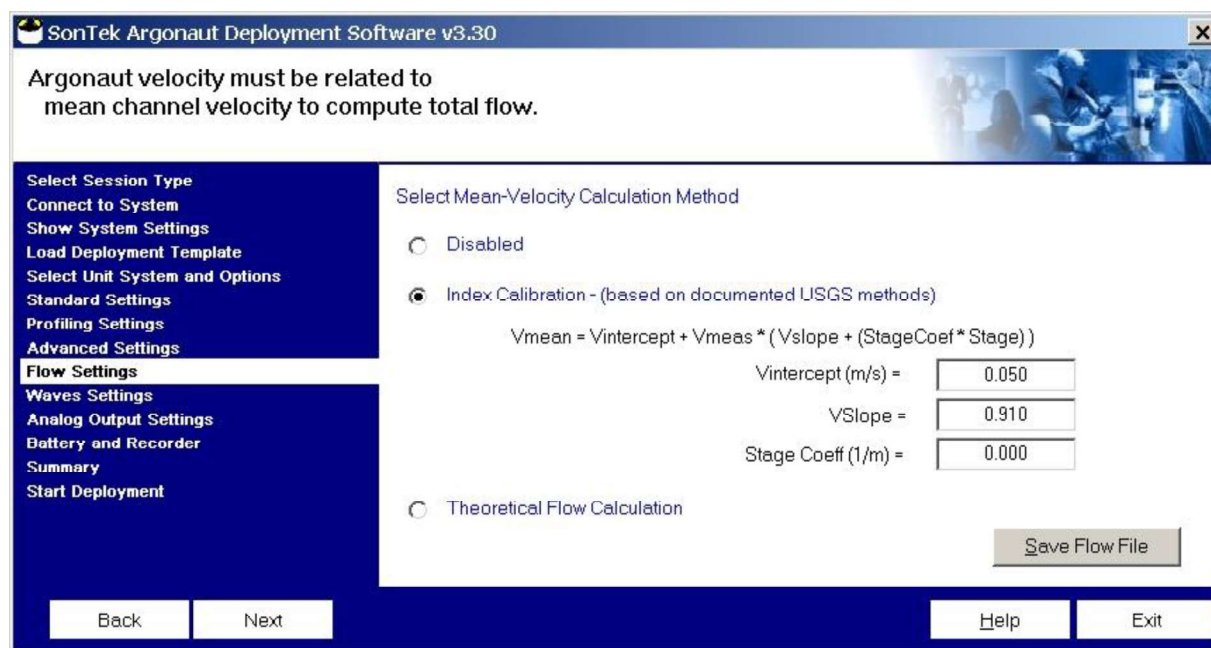

Figure 5-43. Deployment Software: Mean Velocity Equation
- Later, you can save channel geometry information to a file for future use using the **Save Flow File** shown in Figure 5-43.
- Later, you can save channel geometry information to a file for future use using the **Save Flow File** shown in (**Figure 5-43**).
Figure 5-43 shows the screen for determining how to convert measured velocity to mean channel velocity. The following parameters are specified in this screen. When all parameters are correctly specified, click **Next** to continue.